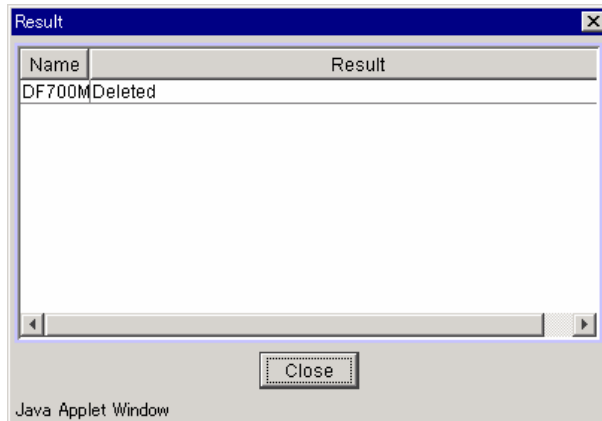

Figure 4.16 Result Window
3. The Result screen displays. Click **Close**. See Figure 4.16.